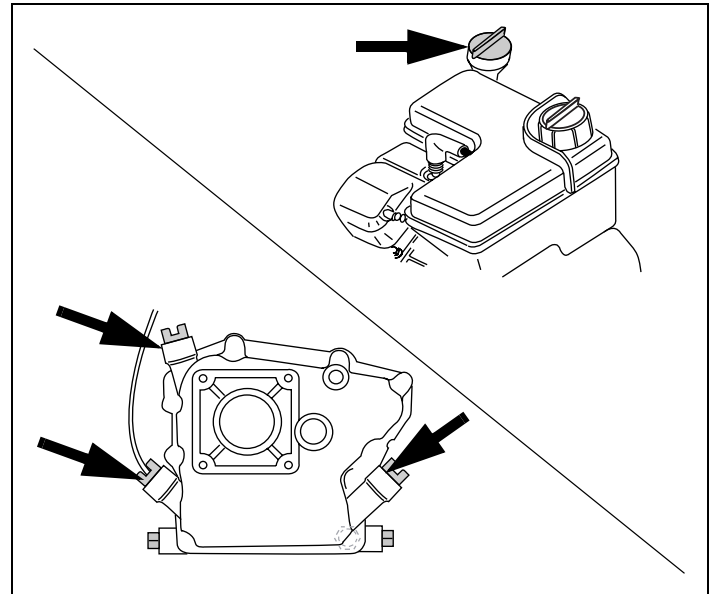

Figure 22. Possible Oil Fill Locations
8. Fill with recommended oil. See "III. Oil and Fuel Specifications" instructions on page 3. See Table 1, on page 3. See Figure 22.